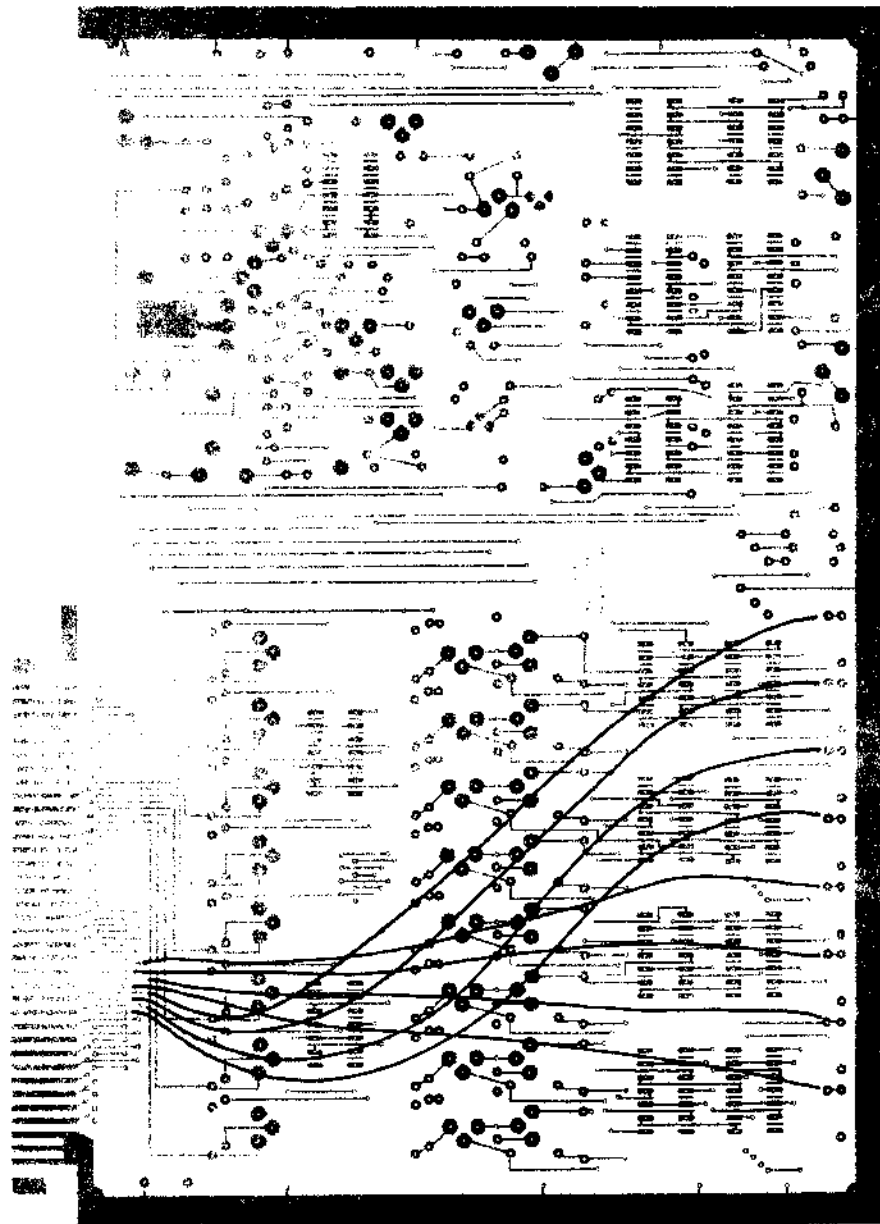

Figure 4. Output from Data Receiver Wiring
- (-) Cut sixteen lengths of wire approximately 7 inches long. Strip 1/4 inch of insulation from each end. Install eight of these as shown in Figure 4. Solder and cut off excess lead length.